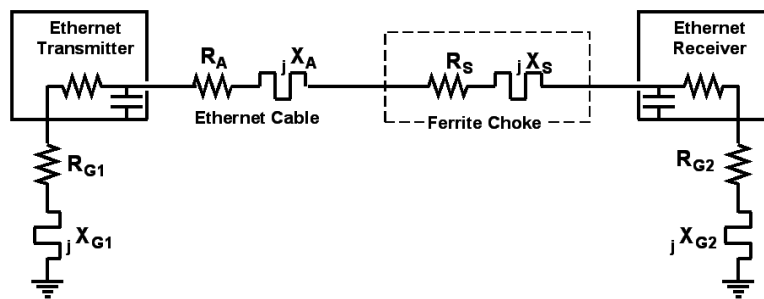

Fig 21 – Ethernet circuit, including "ground"
Fig 21, which includes the impedance of the path to "ground," makes it clear that there can be a lot of variables in this simple problem. Each of the X terms may be capacitive or inductive, and they will have different values at every frequency. Every wire in that series circuit will function as an antenna, radiating any noise current that it carries. Does that mean we must throw up our hands? Of course not. But it clearly shows why coming up with a number for how much suppression a given choke will yield is not a simple matter. Indeed, the best way to learn that for any given circuit is to wind a choke that provides the greatest impedance in a practical package and try it!
In the simple circuit above, the Ethernet transmitter can be seen to feed an unbalanced dipole, where the Ethernet cable is half of the dipole and a connection to "ground" via the power supply is the other! Fig 21 makes it clear that the current path is also a loop. We must never forget that our invisible "ground" circuit can be part of the antenna circuit, contributing both its length and radiation to the problem. And if the Ethernet device is a switch or hub that has multiple outputs, the Ethernet cables connected to each port become part of the equivalent circuit, and because each output includes a line driver, the cables connected to each output need suppression.
**Threshold Effect** Looking again at the series circuit of Fig 21, let's say that for a particular antenna (Ethernet cable) working into a particular piece of gear, the series impedance at the frequency of the interference is 300  $\Omega$ . If we are able to reduce the RF current by 6 dB, (one half), the interference radiated by that cable will also drop by 6 dB in our ham receiver. To do that, a choke must add enough resistance to double the total impedance. In other words, we need to end up with 600  $\Omega$ . But what if the antenna circuit is capacitive and our choke is inductive at that frequency? Some of the impedance we are adding will increase the current because it resonates with the antenna, so we may need to add more than 300  $\Omega$  to hit 600  $\Omega$ ! *How many times have you heard someone say, "ferrite beads don't work on this problem – I added one and nothing happened."* In fact, they were simply below the threshold impedance needed in that particular circuit! Once we've hit that threshold, adding more series impedance continues to reduce the current flow. RF current is reduced by the ratio of the "before" and "after" values of the total series impedances. Since power is proportional to the square of the current, RF noise falls 6 dB per halving of the current flow. If the choke is suppressing the detection of RFI in other equipment (telephones, hi-fi systems, etc.), 6 dB less RF translates into a 12 dB reduction in detected RF (because all detection is square law).